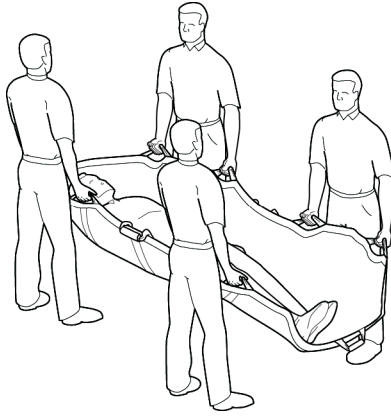

Figure 3
- Using the handles, lift and carry the patient to a cot as shown in Figure 3. The Transfer Flat can accommodate up to twelve operators.